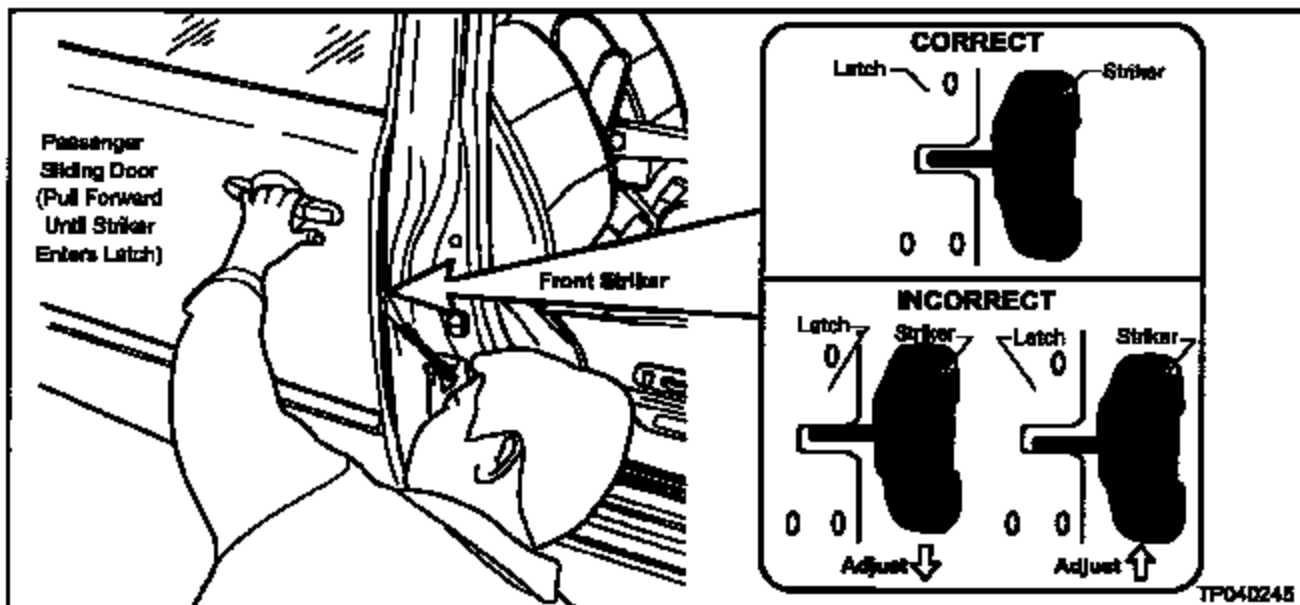

Figure J30 (Front Striker)
- Between the front Striker and Latch (see Figure J30).
- a. If either the front or rear Striker clearance is incorrect (as shown in Figure J30 and J31), continue with the **Adjust Door Strikers** procedure (next page).
- b. If both the front and rear Striker clearances are correct (as shown in Figure J30 and J31), continue with the **Check Sliding Door Glass to Quarter Glass Alignment** procedure (page 44).